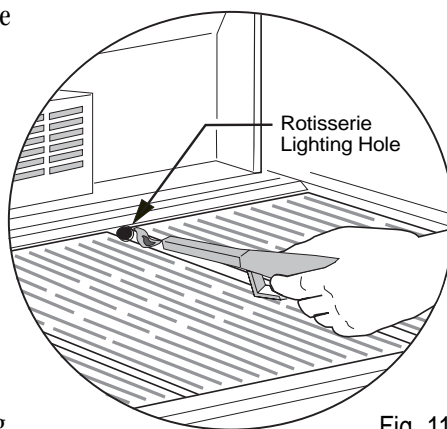

Fig. 11
4. Insert a lit match or a butane lighter into the match lighting hole located below the rotisserie screen (see Fig. 11).